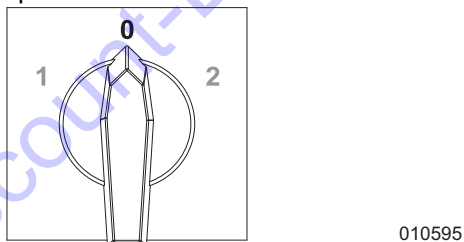

Figure 3-46. Flex Switch—Position 0
- See **Figure 3-46**. Switch the flex switch (if equipped) to position 0.